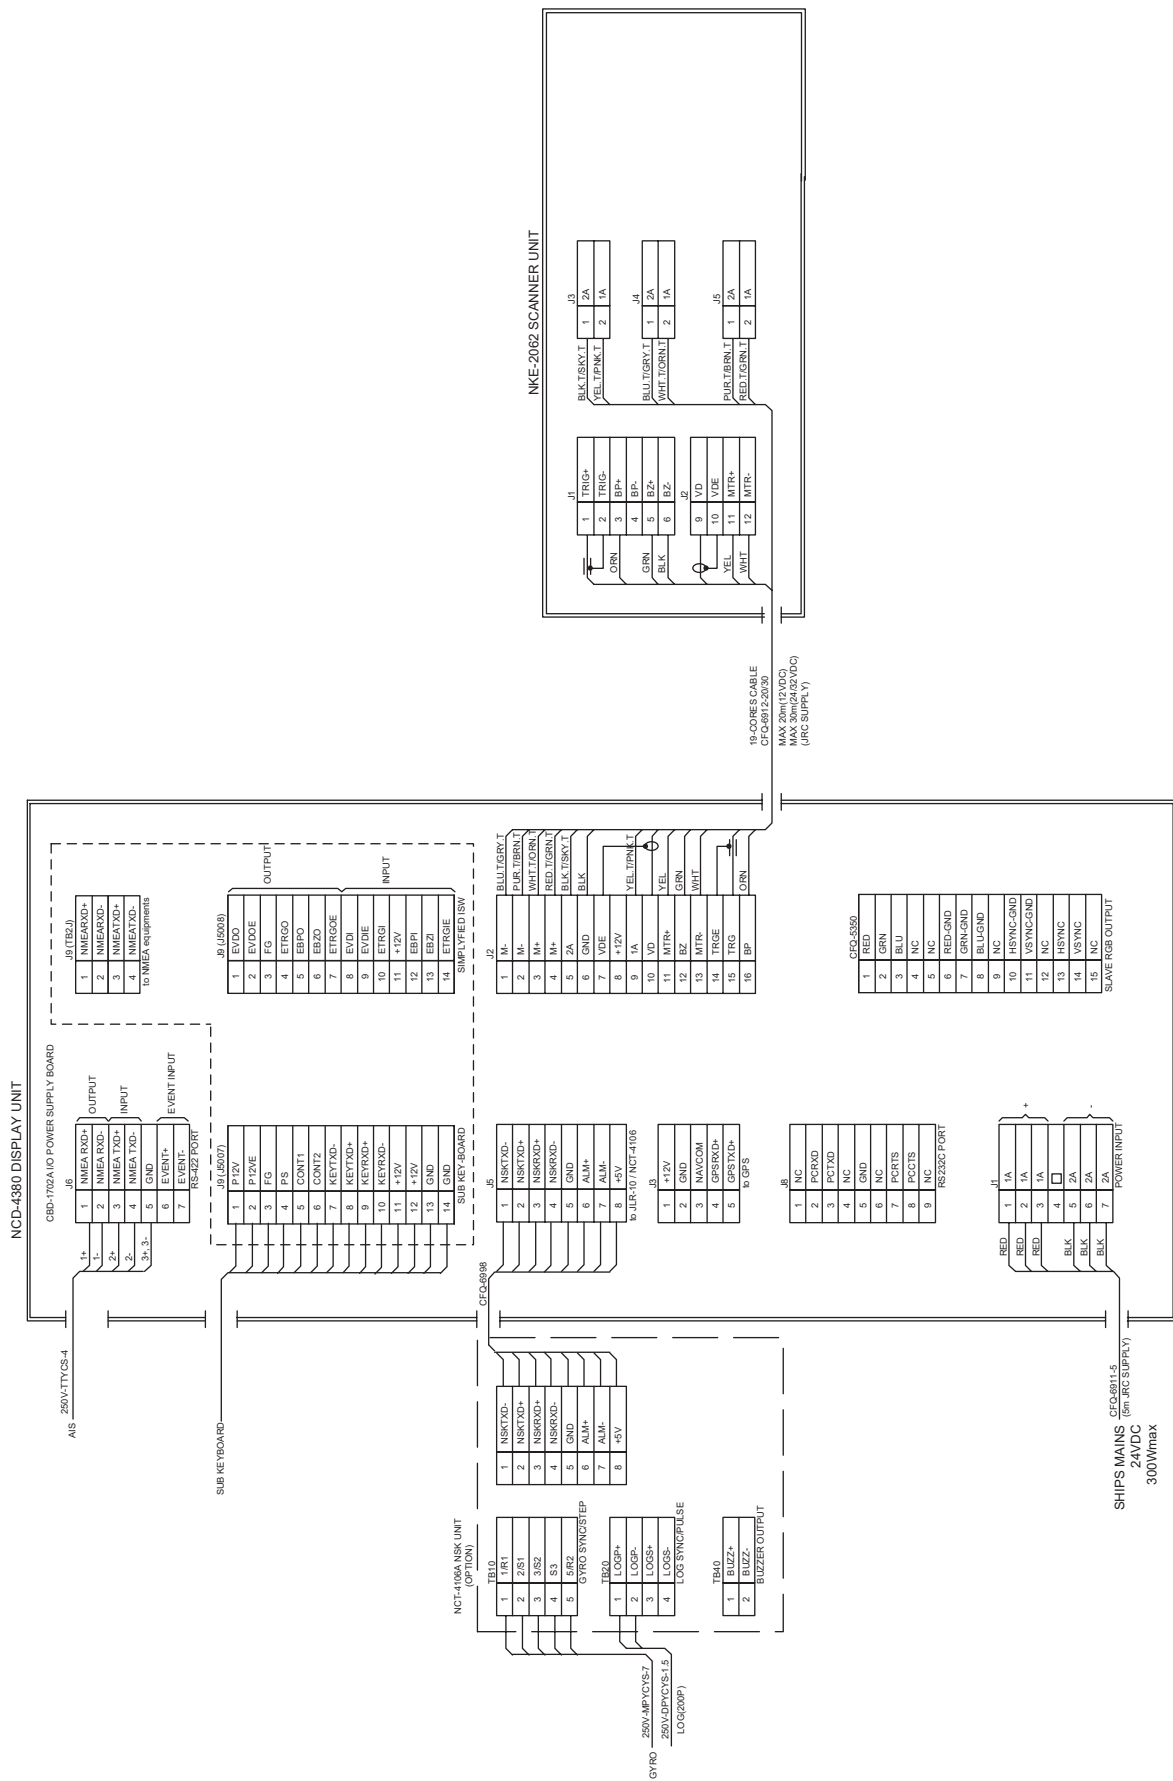

Figure 3 JMA-5208/HS Inter-connection Diagram
- FIGURE 3 JMA-5208/HS INTER-CONNECTION DIAGRAM